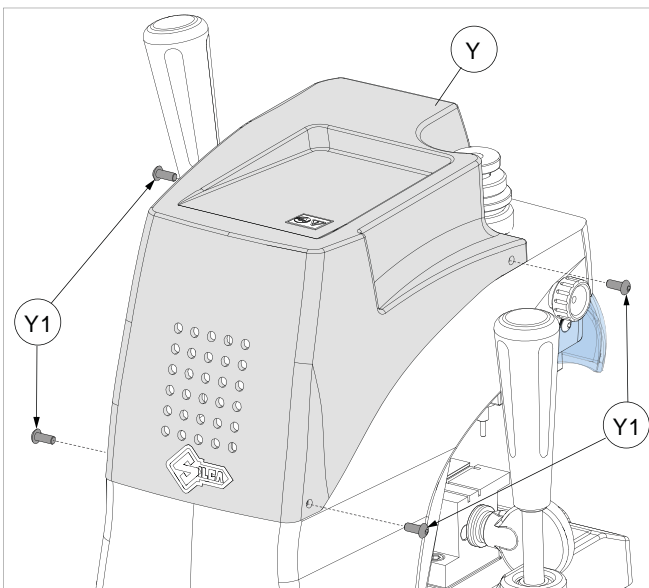

Fig. 36
2) Loosen the four screws (Y1) and remove the upper casing (Y) (Fig. 36).
5) Replace the upper casing (Y) and secure with the four screws (Y1).
- 1) Turn off the master switch (P) and unplug the machine.
- 2) Loosen the four screws (Y1) and remove the upper casing (Y) (Fig. 36).